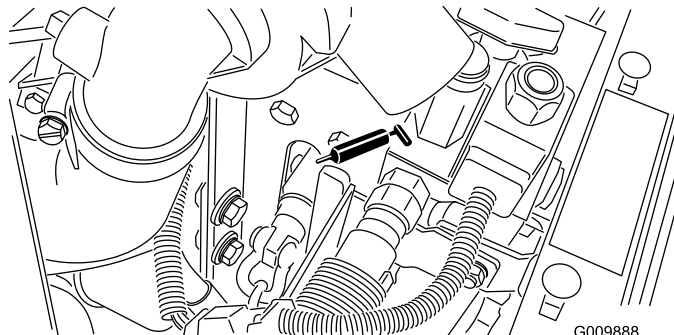

Figure 43
- Neutral centering (Figure 43)